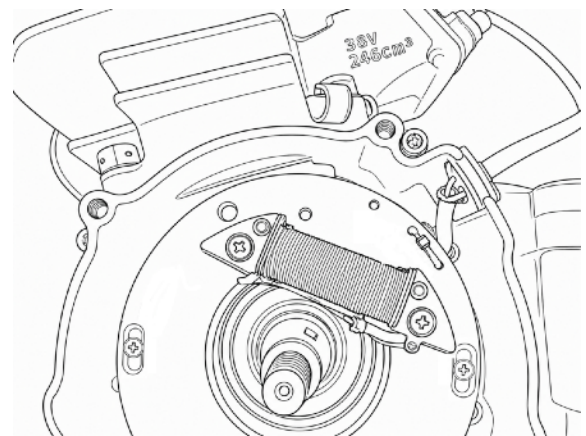

Fig 2. RMK5 should be installed source coil uppermost
3. Fit the electronic ignition stator with windings as shown. Use the 2 x M6 Philips screws from the kit to fasten it to the engine at the two mounting positions as shown in figure 2.